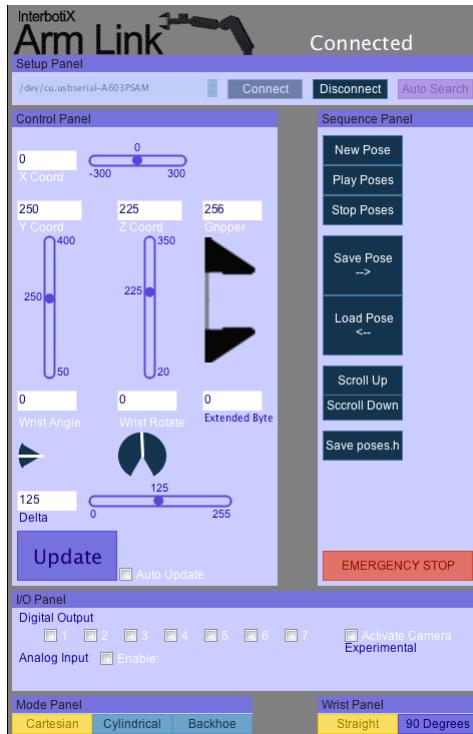

Figure 2.8: Arm Link Application Panel
5. On a successful connection, the arm will move from its 'sleep' position to a 'home' position. This may take several seconds. Once the arm has moved to its home position and is ready for commands, the various panels will appear as shown in Figure 2.8. **Once the arm is connected to the software, don't try to move it by hand as each of the motors will exert torque.**